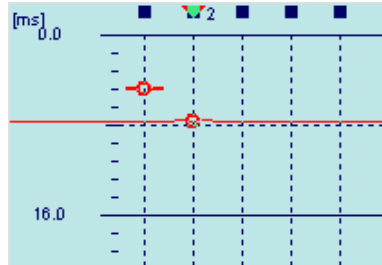

Figure 25 First break marker on trace 2
- Positioning a first break marker on trace 2 (Figure 25)